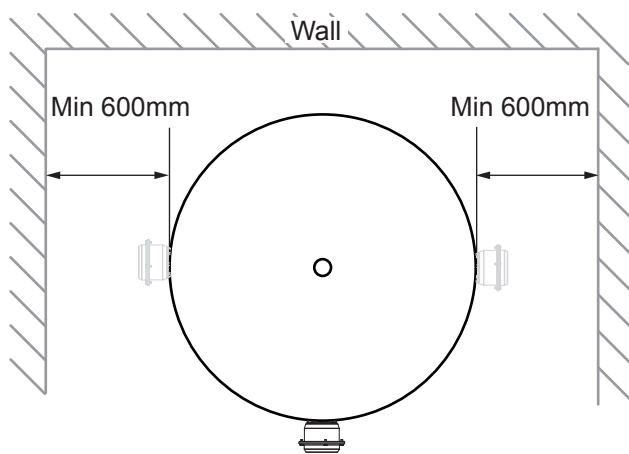

Figure 10: Siting the unit if immersions not at the front
- ▶ Access to associated controls and immersion heaters must be available for the servicing and maintenance of the system. Where these controls are installed against a wall a minimum distance of 600mm must be left, see fig 10 page 12